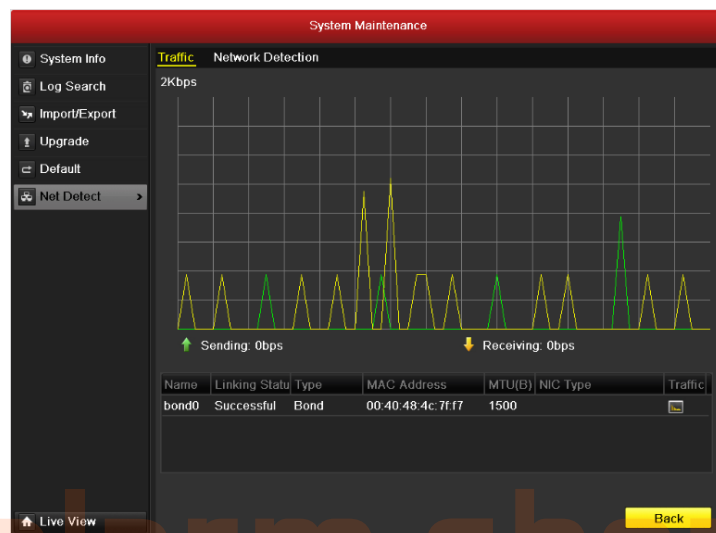

Figure 9.21 Network Traffic Interface
7. You can click the **Test** button to test whether your Email settings work. The corresponding Attention message box pops up. Refer to Figure 9.21.